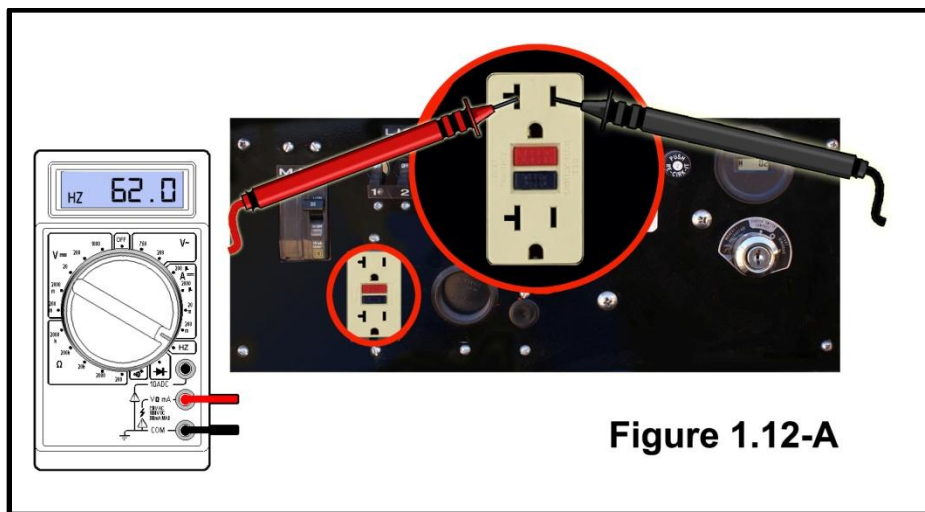

Figure 1.12-B
Set the multimeter to the Hertz (or HZ) scale. With the engine running and the light breakers switched off, insert the meter probes into the GFCI receptacle as shown on the following page (Figure 1.12-A). The meter should read 62.0 Hertz with no load on the engine. A reading of less than 62.0 Hertz indicates that the engine is not running with enough speed to create the necessary power to operate all of the lamps consistently.
- A. Incorrectly adjusted engine governor. Adjust governor as shown on the following page (Figure 1.12-B) until a reading of 62.0 HZ is indicated on the multimeter display